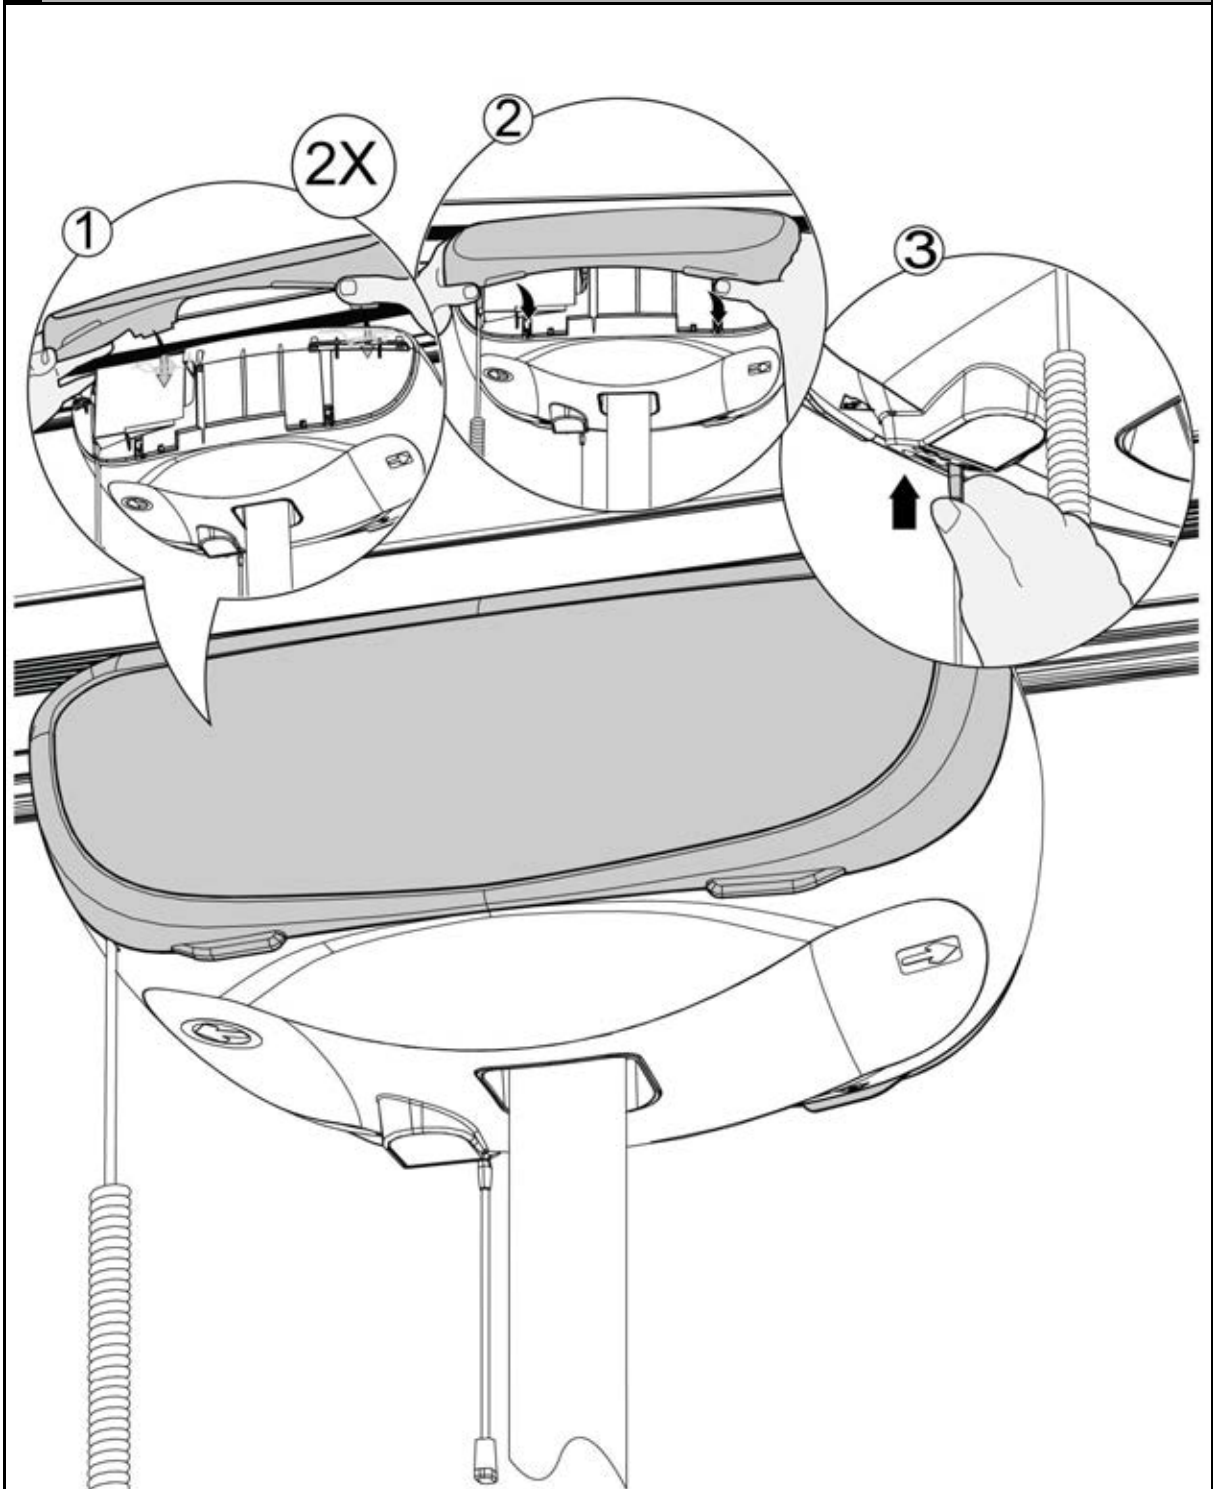

Fig. 6
- ① Reconnect the handset jack to the socket located on the plastic housing.
- ② Thread the cable through the various points in the strain-relief.
- ③ Secure the handset cable by clipping it to the unit's plastic housing.
- ④ Reinstall the battery (see Fig. 5) and side panel (see Fig. 6). The unit can now be turned back on by pushing upwards on the plastic insert switch.